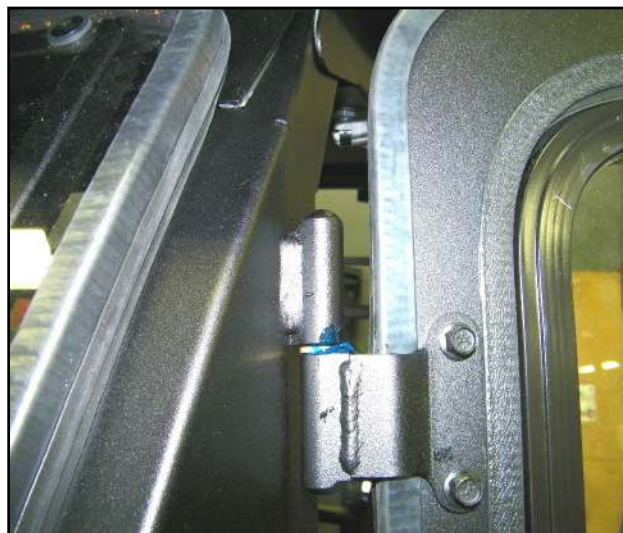

Fig. 14.4 Assembled Hinge
14.4 Per figure 14.4, install a brass washer to the lower hinge of the driver's side A-Pillar. Place the driver side door onto the lower hinge of the driver side A-Pillar. Latch the door, then install a brass washer and the left upper hinge sleeve to the A-Pillar. Then bolt the left hinge sleeve to the door. Wipe away any excess grease from the hinges.